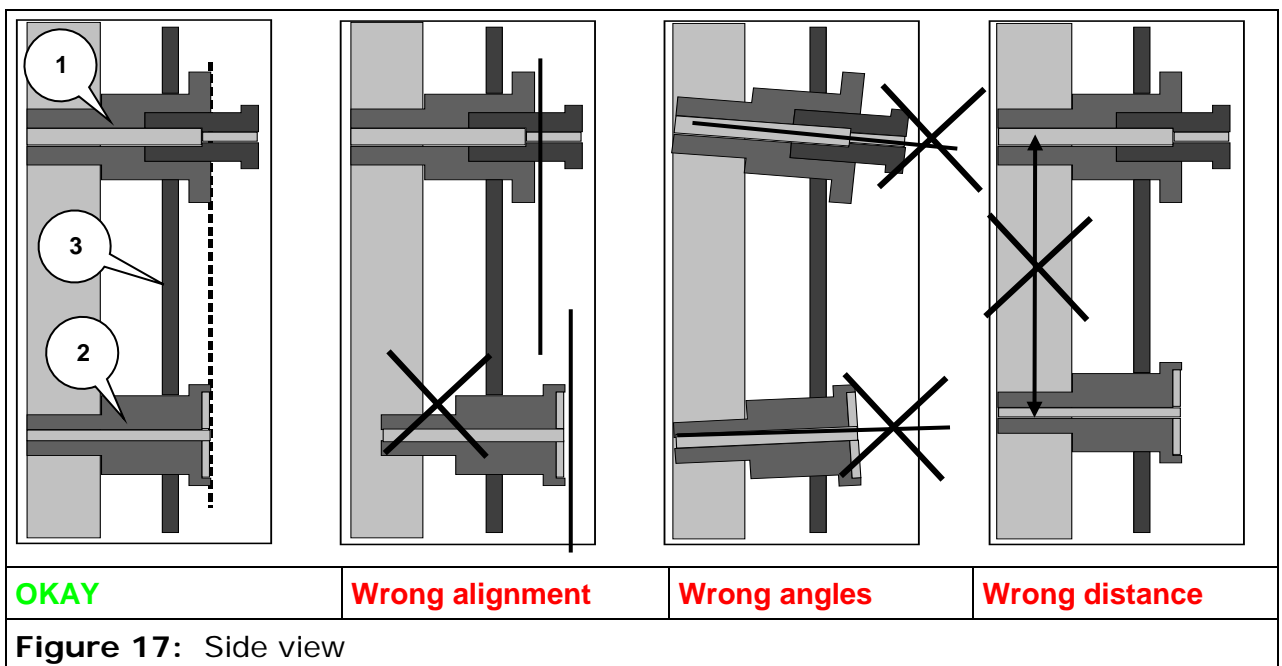

Figure 17: Side view
- Avoid wrong alignment, wrong angles and incorrect distances (see Figure 17)